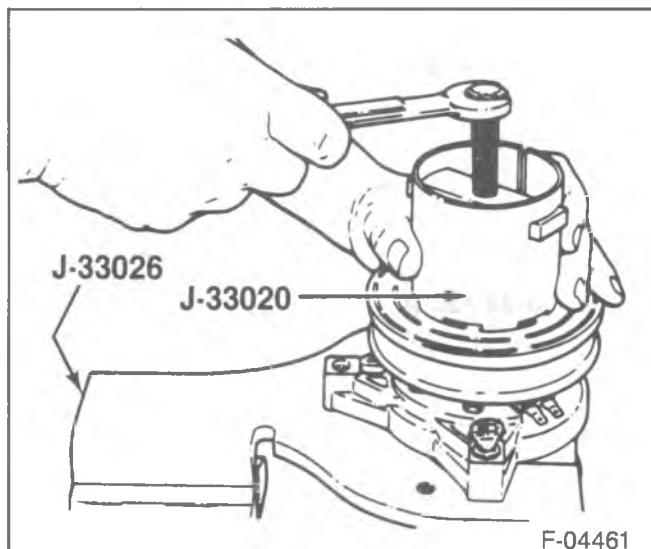

Figure 10—Installing J-33020 in the Pulley Rotor Slots
- Install J-33020 tangs into the inner circle of slots in the pulley (5) contact surface. Rotate J-33020 clockwise so the tangs will lock into the segments between the slots (figure 10).
- Hold J-33020 in place and tighten the puller screw against J-33023-A puller pilot to remove the pulley (5) (figures 10 and 11).